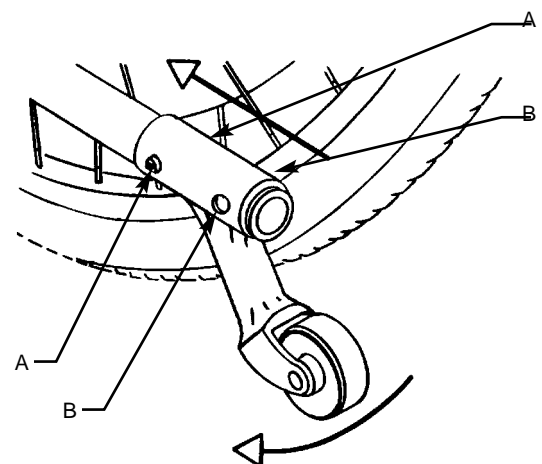

Figure 8
To adjust the angle press both spring studs (A) and reposition to the pre-drilled holes in the tipping bar (B) (see FIG 8).